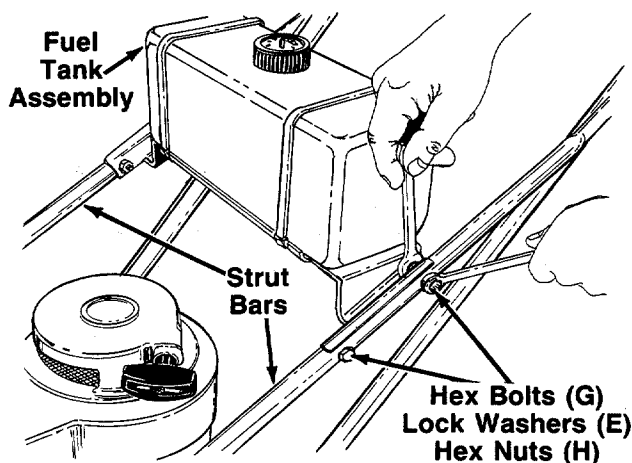

FIGURE 6.
9. Place the fuel tank assembly in position on the strut bars as shown in figure 6. Secure to the strut bars using hex bolts (G), lock washers (E) and hex nuts (H). Tighten securely.